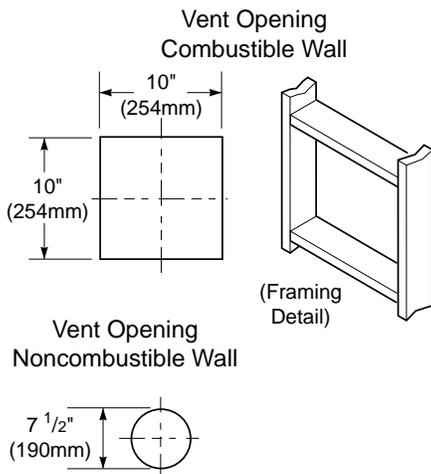

Figure 27 - Vent Opening Requirements
- Attach vent pipe assembly to the burner system. Set stove in front of its permanent location to insure minimum clearances. Mark the wall for a 10" square hole (for noncombustible material such as masonry block or concrete, a 7 1/2" diameter hole is acceptable). See Figure 27. The center of the hole should line up with the centerline of the horizontal rigid vent pipe. Cut a 10"x10" (254mm x 254mm) square hole through combustible exterior wall (7 1/2" [190mm] diameter hole if noncombustible). Frame as necessary (see Figure 27).
1. Cut a 10" square hole in the ceiling using the locating hole as a center point. The opening should be framed to 10"x10" (254mm x 254mm) inside dimensions, as shown in Figure 27 on page 13 using framing lumber the same size as the ceiling joists. If the area above the ceiling is an insulated ceiling or a room, nail firestop from the top side. This prevents loose insulation from falling into the required clearance space. Otherwise, install firestop below the framed hole. The firestop should be installed with no less than three nails per side (see Figure 35).
3. Cut a hole in the roof using the locating hole as a center point. (Cover any exposed open vent pipes before cutting hole in roof.) The 10"x10" hole must be measured on the horizontal; actual length may be larger depending on the pitch of the roof. There must be a 1" clearance from the vent pipe to combustible materials. Frame the opening as shown in Figure 27 on page 13.